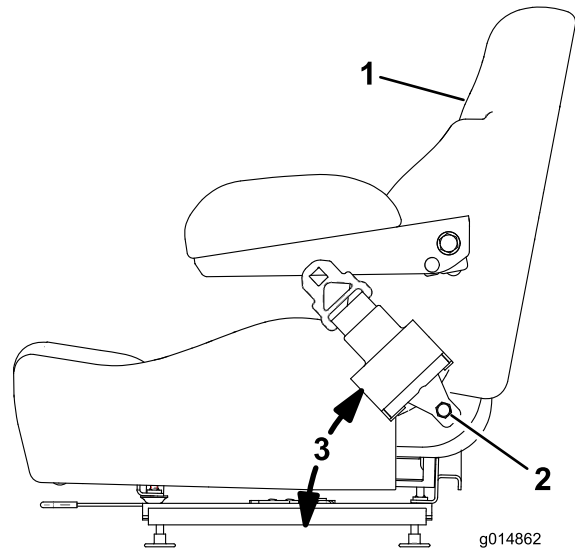

Figure 11
1. Check the angle of the seat belt compared to the bottom of the seat. The angle needs to be 47 degrees. See (Figure 11)